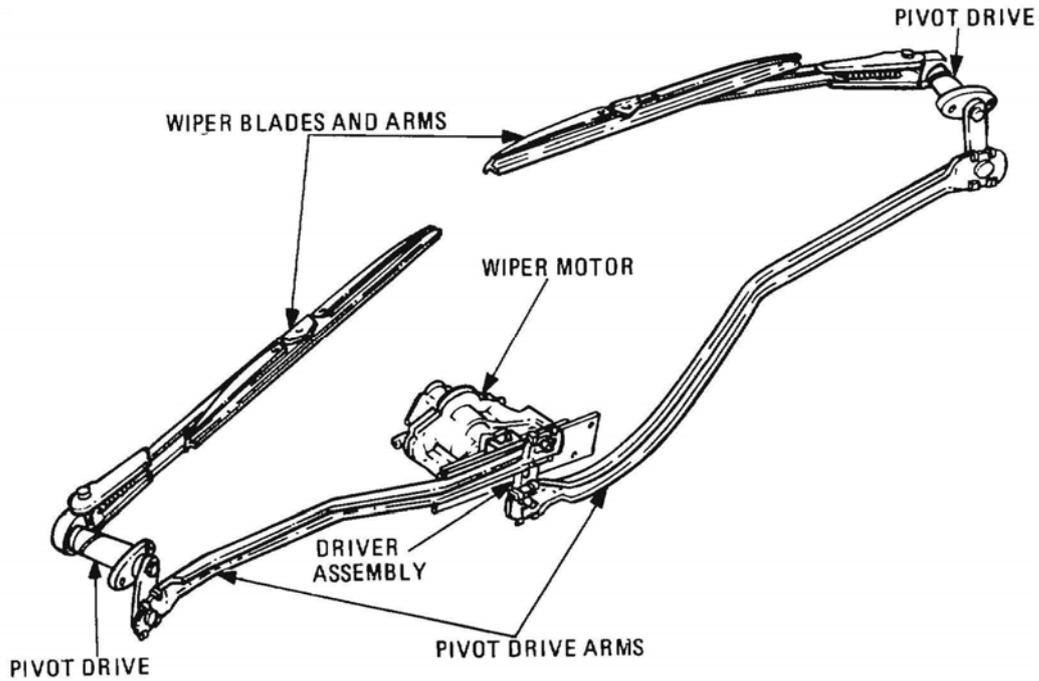

Figure 129 Windscreen Wiper Assembly
**183.** The vehicle cab is fitted with air operated variable speed windscreen wipers to maintain clear forward visibility for the driver. The wiper assembly is mounted behind the dash panel with the pivot drives extending out through the scuttle to which wiper arms and blades are attached. The air driven wiper motor is mounted on the firewall in the engine compartment and is connected to the pivot drive arms by means of a driver assembly. The compressed air required to operate the wiper motor is taken from the power divider lockout valve and directed to the wiper control valve, which regulates the flow of air to the wiper motor. A control knob located on the left-hand instrument panel is connected directly to the control valve, giving the driver control of the operation and speed of the windscreen wipers (Figure 129).